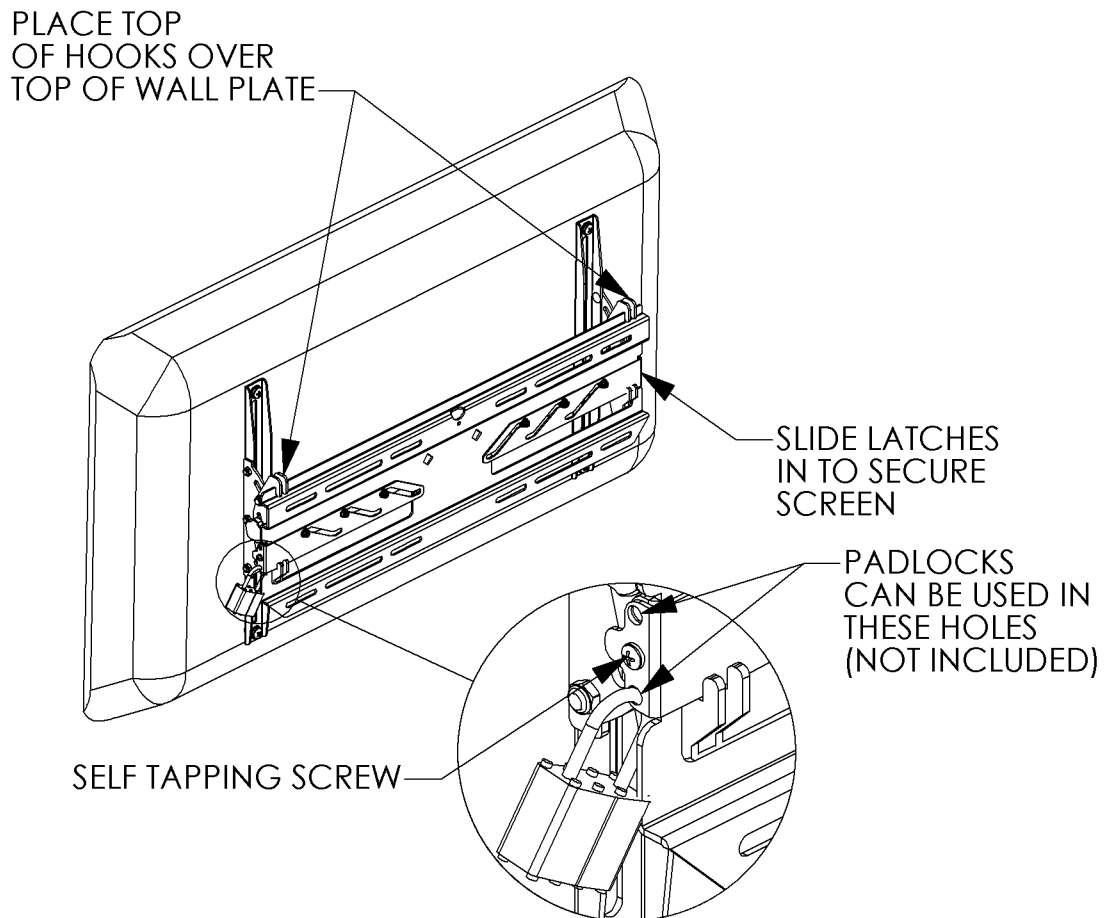

Figure 14. Install Display
1. Place the display on the wall plate (10) by hooking the hooks of the brackets (20 and 30) in the top of the wall plate (see Figure 14).
2. Secure the display by sliding the latches, one on each side, inward (see Figure 14).
3. If desired, install self tapping screws (230) and/or padlocks (not provided) for additional security (see Figure 14).